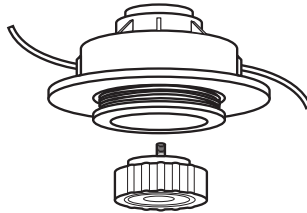

Fig. 26b
7. To replace the spool simply remove from the trimmer head (B11) and replace with a new one of the same type. (See Fig. 26b)